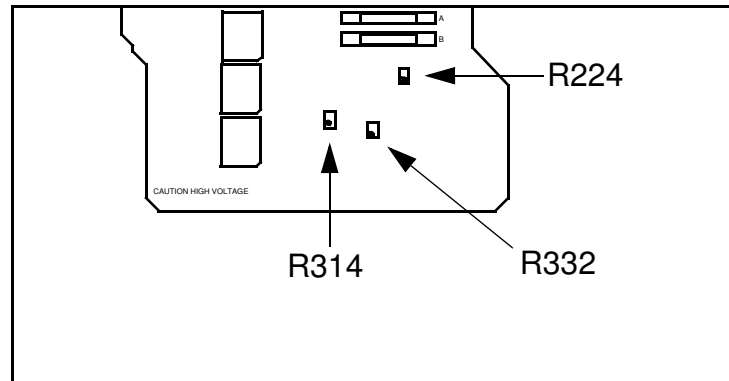

Figure 6.1-1. Location of Trim Pots on Control Board
3. Adjust R314, Figure 6.1-1, clock wise to find the roll over point. Once roll over point is found turn R314 a half a turn counter clock wise. The minimum voltage has now been set.